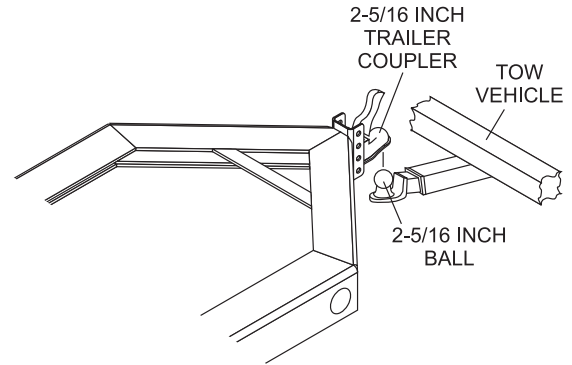

Figure 28. Ball Hitch Coupling Mechanism
- Lower the trailer (Figure 28) until the coupler fully